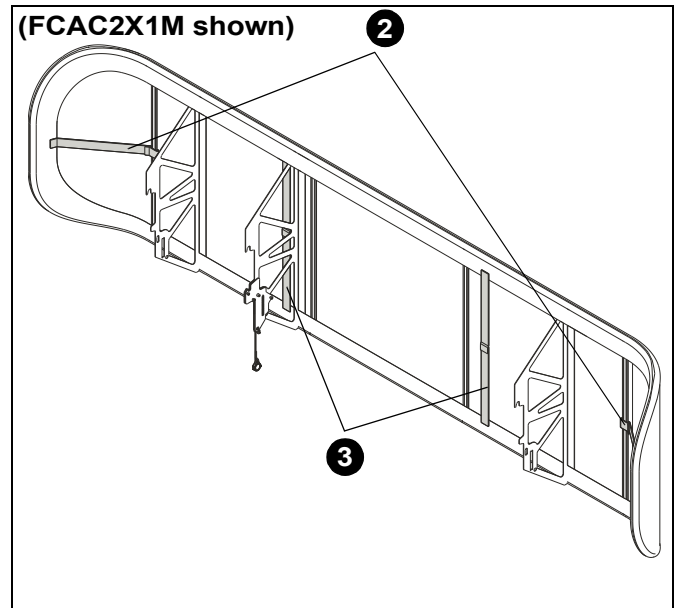

Figure 11
2. Wrap outside straps around outside vertical rails on frame. (See Figure 11)
3. Fasten vertical straps within cover to ensure a snug fit over frame. (See Figure 11)